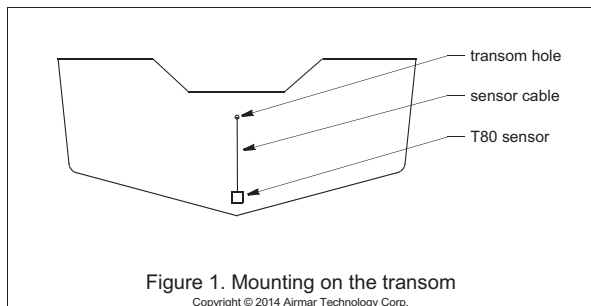

Figure 1. Mounting on the transom
1. Remove the hull nut (see Figure 1).
2. Push the sensor into the mounting hole using a twisting motion to squeeze out excess marine sealant (see Figure 1).
**CAUTION:** Mount the sensor as close to the centerline (keel) of the boat as possible to ensure the sensor remains in the water when the boat is turning (see Figure 1).